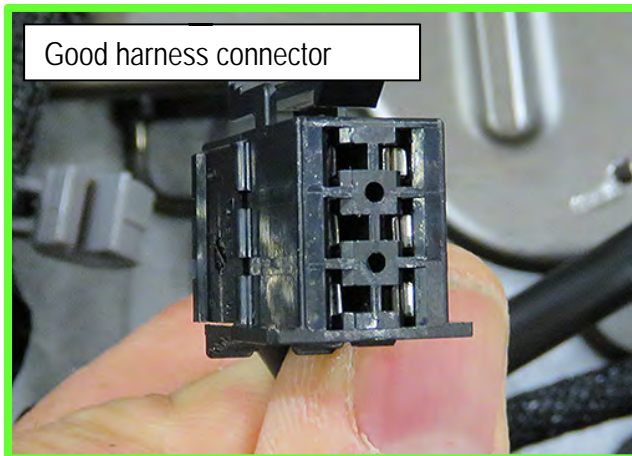
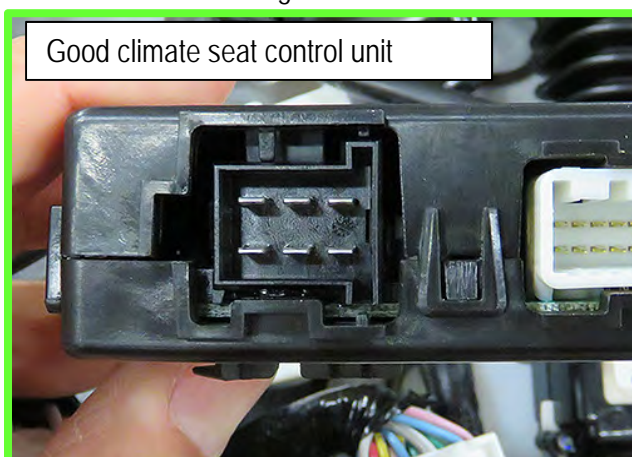

Figure 2
Figure 4
- If the harness connector and the control unit appear similar to Figure 2 and Figure 4 (Good harness and connector), this bulletin does not apply. Refer to the ESM for additional diagnostic information.